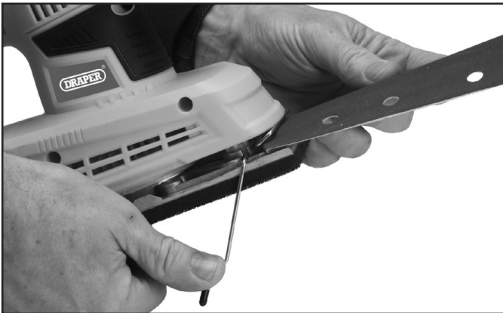

FIG. 3
6.3 CONVENTIONAL ABRASIVE SHEET INSTALLATION / REPLACEMENT - FIG. 3
- Open one fixing clamp (10) and insert one end of the abrasive paper into the exact position. Close clamp.
- Position the sheet of abrasive paper on the base pad and wrap the sheet around the front of the base pad (9).
- Open the second clamp (11) and insert the other end of the abrasive paper then close clamp. Check that the sheet is firmly secured and that it completely covers the base pad of the tool. Abrasive sheet must be centrally positioned and taught over the base pad.